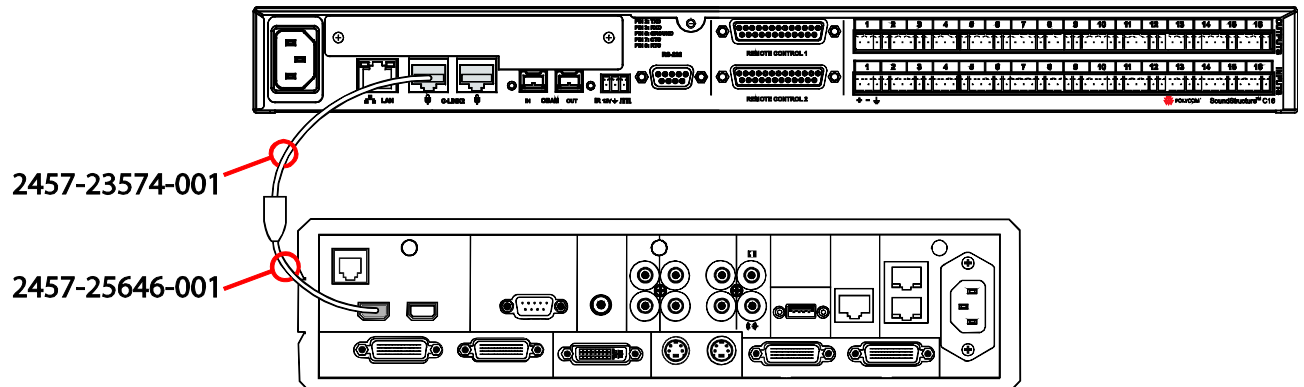

Figure 3. SoundStructure and HDX 8000 codec Integration interconnect using Conference Link.
2. As shown in the Figure 3, connect the Walta Male to RJ45 Female connector (ordered separately, part number 2457-25646-001) to the 18" Clink RJ45 male to RJ45 male cable that is included with SoundStructure. More information about cables and accessories that may be used with SoundStructure may be found in the SoundStructure Accessory Guide [3].